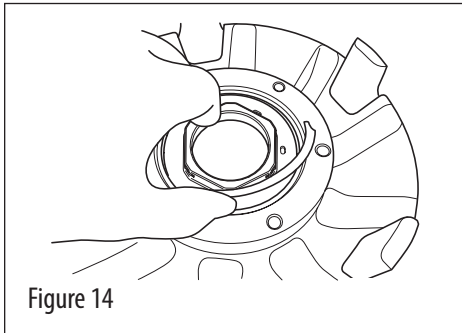

Figure 14
3. Install the spiral snap ring into the snap ring groove in the hub. Make sure that the snap ring is fully seated into the groove in the hub (see Figures 14 & 15).